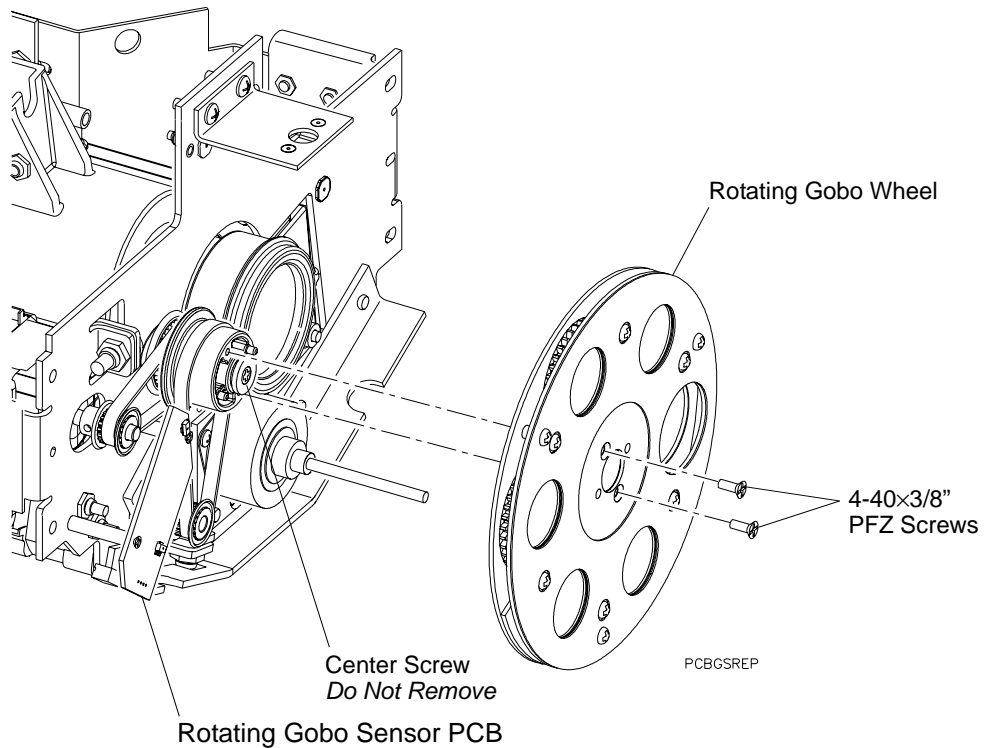

Figure 2-9: Rotating Gobo Wheel Removal
- Step 7. At rear of bulkhead, disconnect wires from rotating gobo sensor PCB. **Figure 2-9.**
Step 3. At rotating gobo wheel, remove two 4-40×3/8" PFZ screws (do not remove middle screw) and remove wheel. **Figure 2-9.**